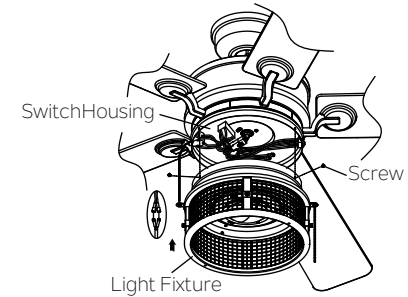

Fig. 3
Step 3. Connect the BLACK wire connectors from the light fixture and switch housing by pushing them together. Follow the same procedure with the WHITE wire connectors. (Fig. 3)
Step 4. The Square plastic wiring connector from the motor body and switch housing will only fit together one way. Match up the color on the side of each connector, then push them together until the snap engages. Tuck the new connections neatly into the switch cover. Align the screw holes with switch housing and light fixture. Tighten all three screws. (Fig. 3)